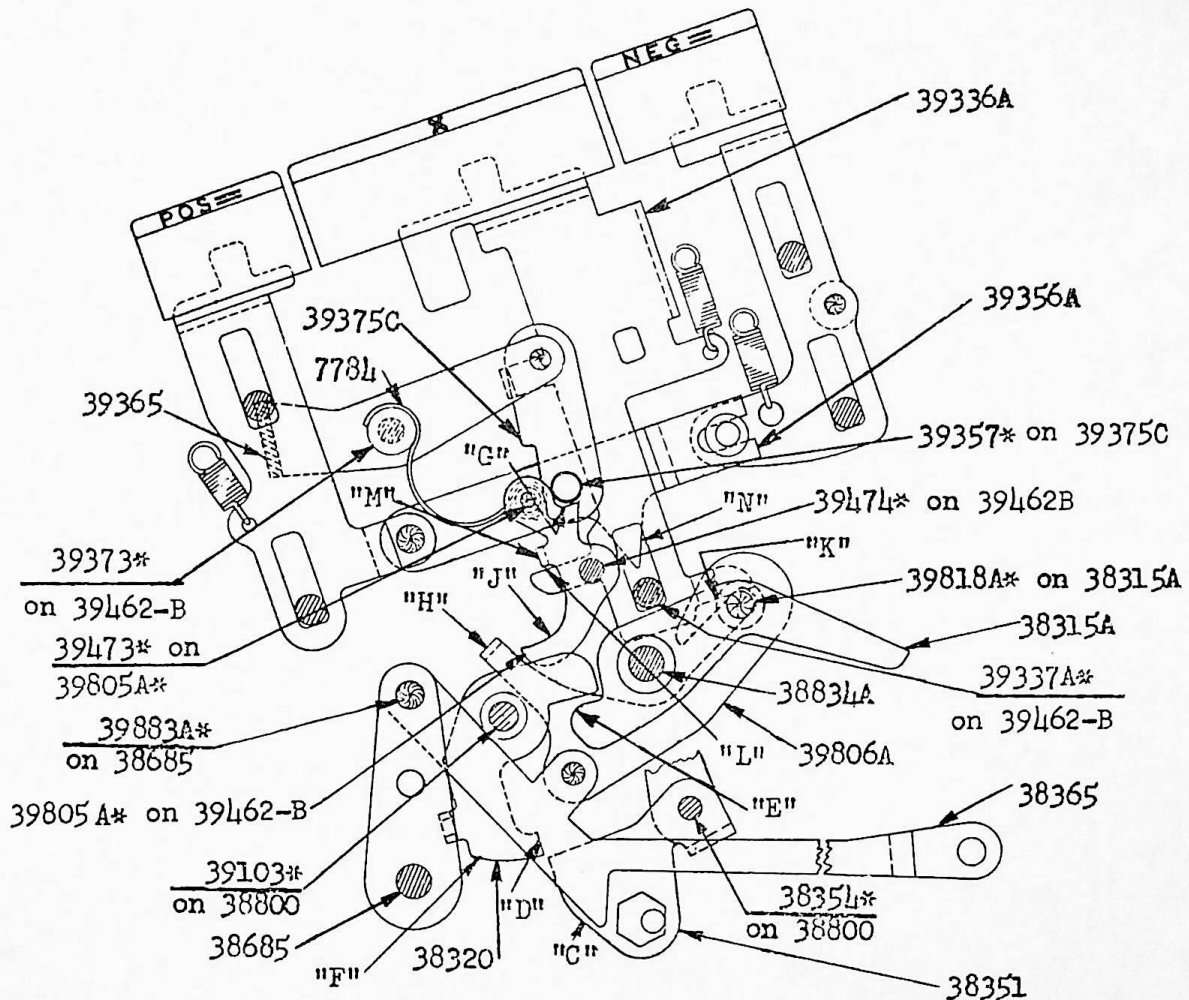

FIG. 83
1. (Fig. 83). While the Add Operating Lever-39305 is rocked, it holds the Add Restore Bail-38351 in its clockwise position where its surface "C" blocks surface "D" on the Add-Multiply Interlock-38320 from rocking counter-
1. (Fig.83).The depression of an Equals Key upon X-Key depression must be delayed until the multiplier operation is completed. This necessitates a double-step interlock which functions as follows: A Block-39805A* on the Multiplier Sub Frame 39462B has a surface "G" which underlies Stud-39357* on 39375C, blocking the Equals Key when the machine is at rest. The Control
1. (Fig.83). Simultaneous depression of